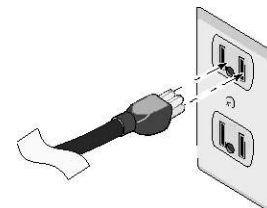

Figure 2 - To bypass the float
- 2B. If the sump pump has a piggy-back type power cord, remove the float switch power cord plug from the outlet and plug the pump power cord plug directly into the outlet. See Figure 2.